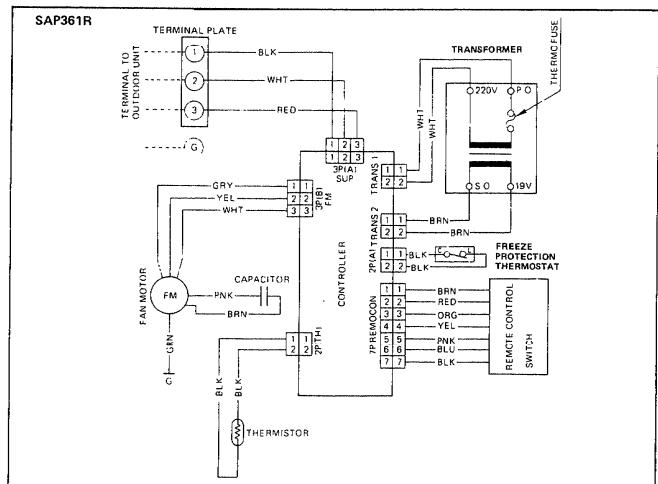

Fig. E-13
2. Set the resistance measuring range of multimeter to "X1Ω" and measure the resistance of the lead wires between WHT-WHT and BRN-BRN as shown in Fig. E-13.